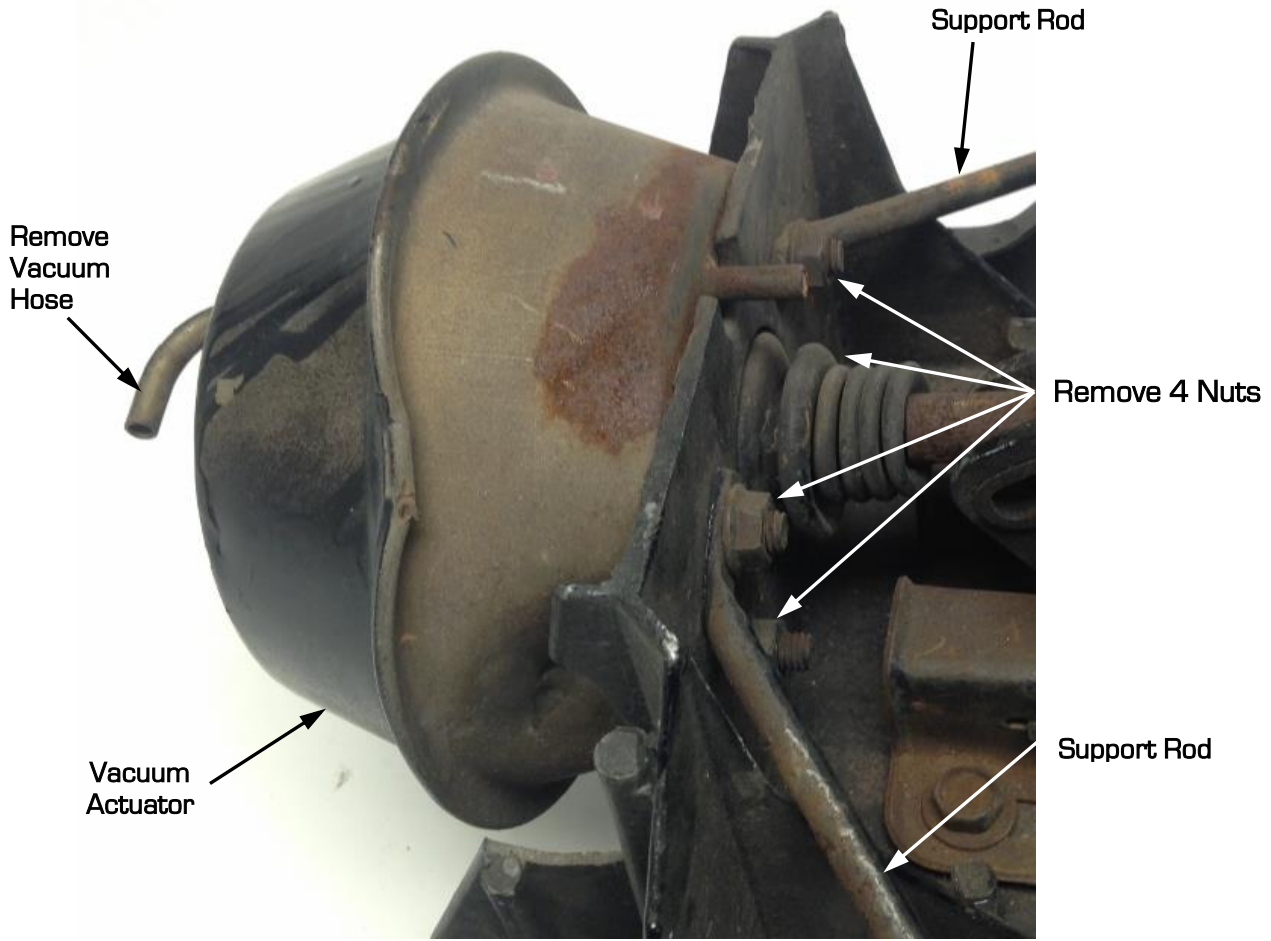

Figure 5 – Remove Vacuum Actuator
5. Remove the vacuum lines from the actuator. Remove the vacuum actuator from the headlight assembly by removing 4 hex nuts (Figure 5 on the next page).